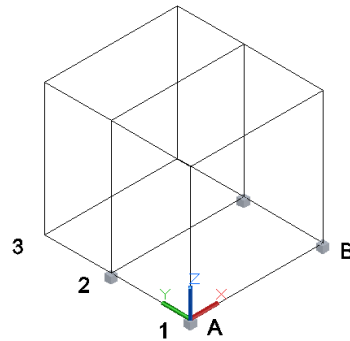

Figure 3-39 Model after adding footings
- Invoke the **Footing** tool and place the footings at the bottom grid points, as shown in Figure 3-39.